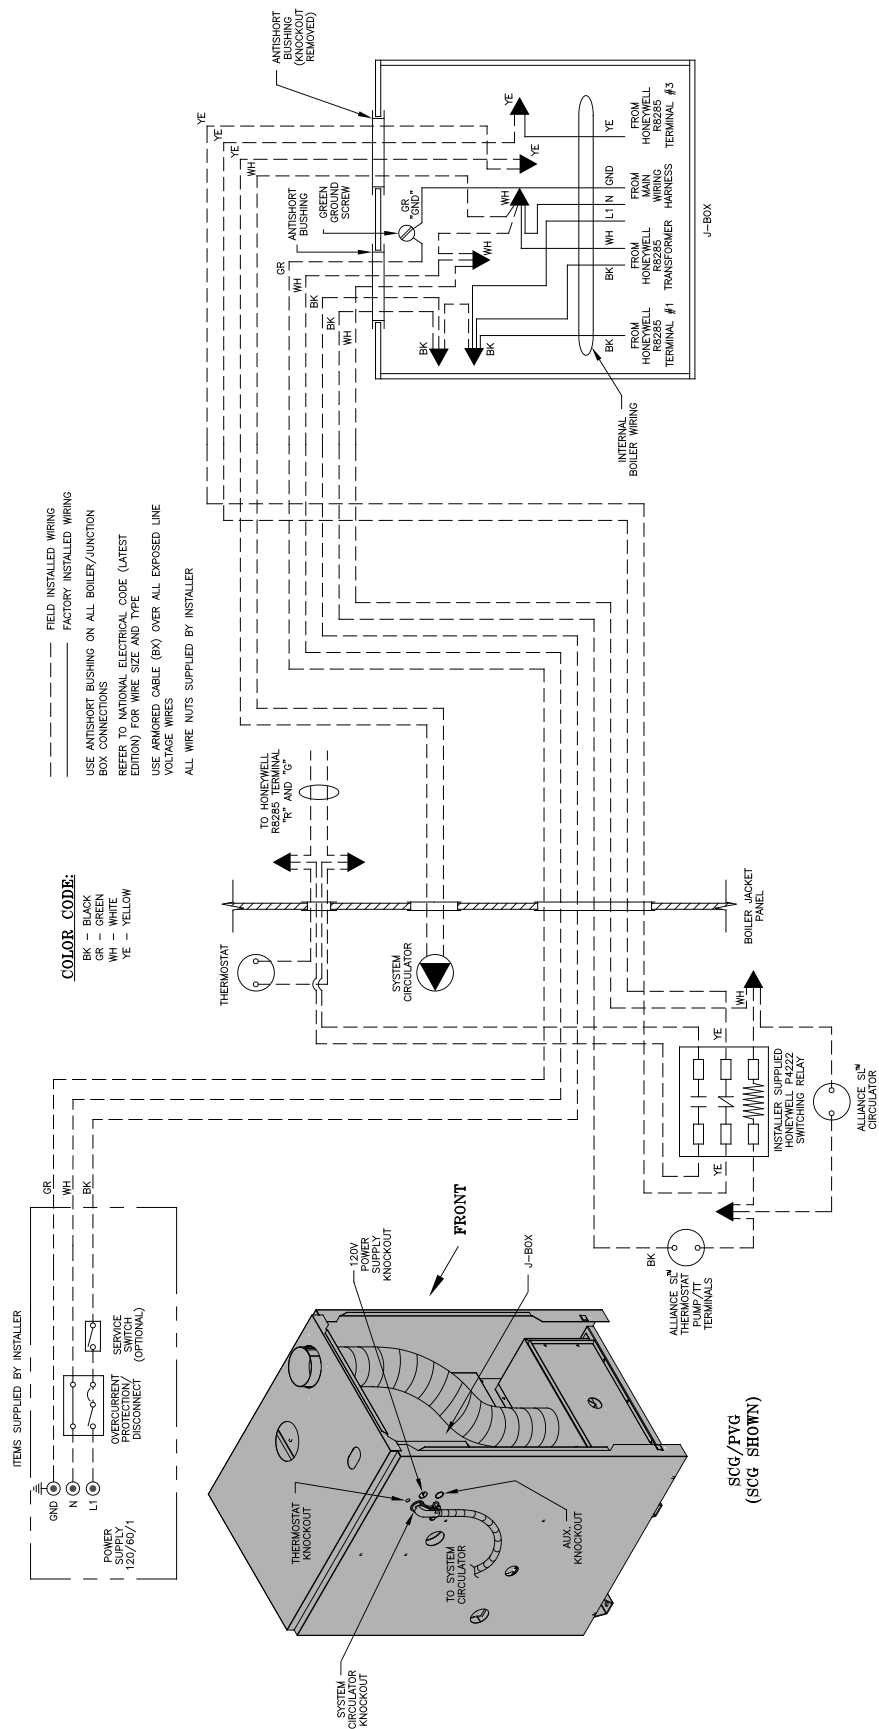

Figure 31: Single Zone System with Packaged Alliance™ Water Heater Wiring Schematic
6. Single Zone Heating System with Alliance™ Water Heater - Refer to Figure 31 of this manual for the electrical diagram for this type of system.